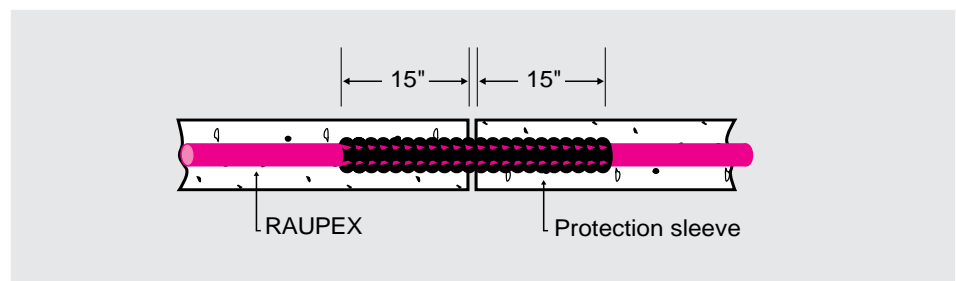

Fig. 3.14: Protective sleeving thru joint.
- In these areas, the heating tubes must be protected from shearing forces (at least 15" (40 cm) on either side of the joint) with protective sleeve, such as REHAU corrugated tube or other insulating channel (as shown in Figure 3.14).
Whenever heating tubes cross movement joints, a protective sleeve must encase the tube as shown in Figure 3.14.